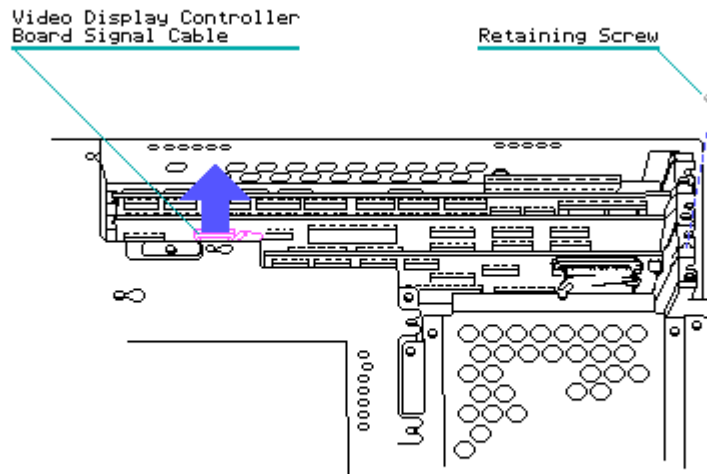

Figure 7-36. Removing the Video Display Controller Board Retaining Screw and Signal Cable
2. Remove the retaining screw that secures the Video Display Controller Board. Then disconnect the video display signal cable (Figure 7-36).